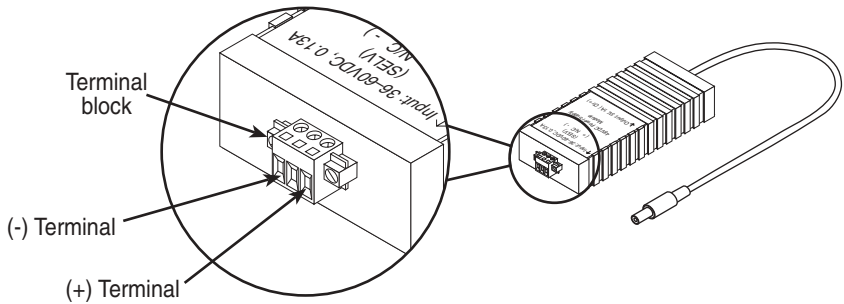

Figure 1. 48VDC power supply
1. Strip insulation 1/4-inch from the electrical wires that will connect the DC power source to the 48VDC power supply terminal block (see **figure 1**).